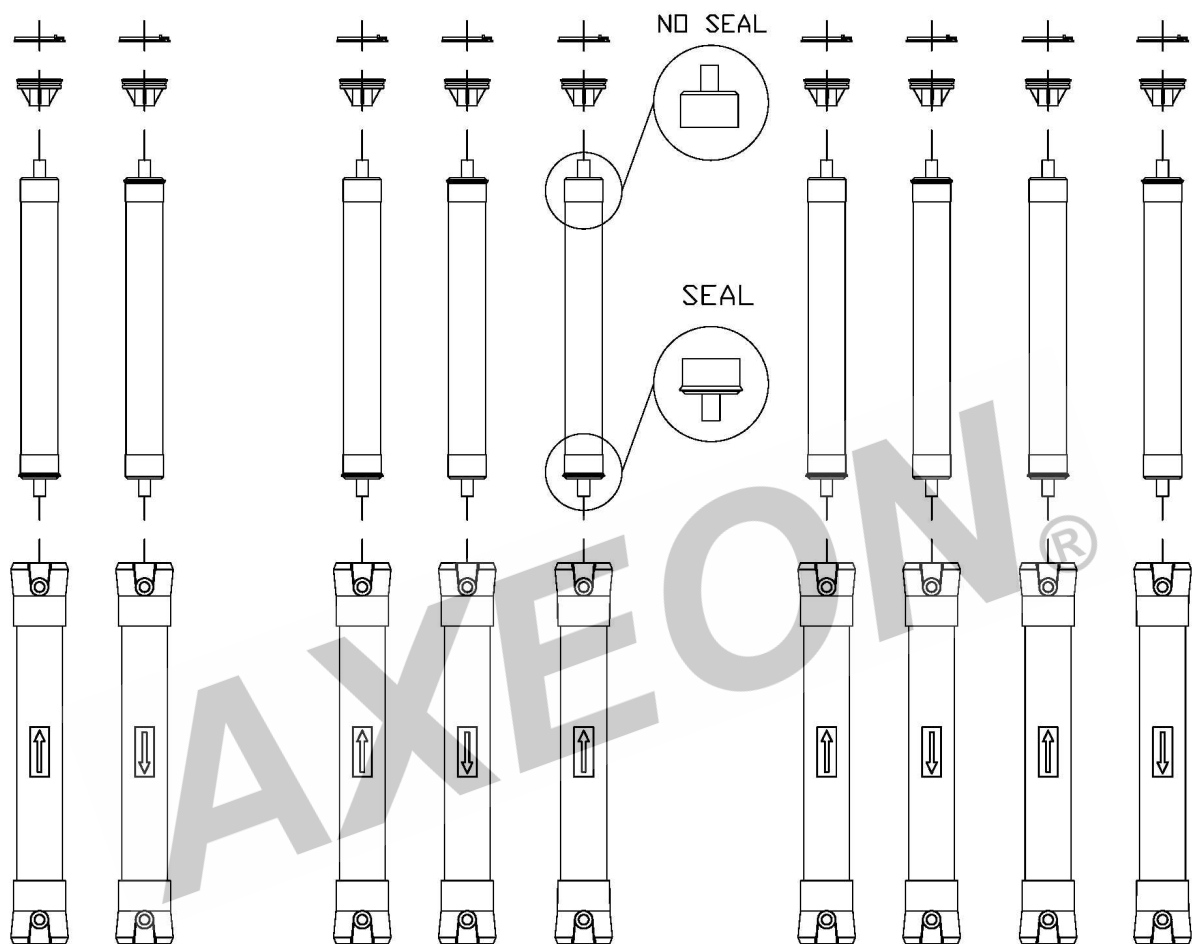

FIGURE 4
5. Flow directions should be observed for installation of each element into each housing. (Figure 4, Page 31)
3. Install the brine seal side of the membrane element first (Figure 4, Page 31). When the housings have a direction of flow from bottom to top, the brine seal should be located at the bottom of the housing.